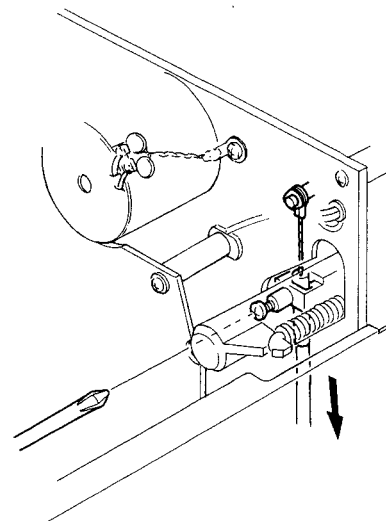

Fig. 4.21
- (2) With pushing the Eject Arm by hand, loosen the screw and then pull the Eject Wire in the direction of the arrow until it stops as shown in Fig. 4.21.
- (3) Tighten the screw, then apply a quantity of lock tight paint.